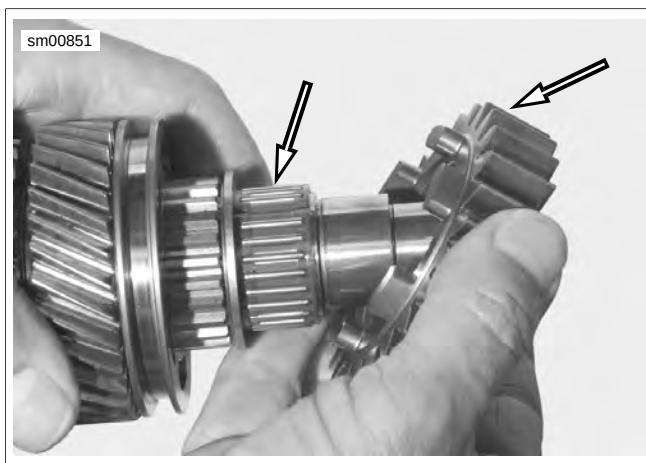

Figure 6-150. Bearing and 5th Gear
6. See Figure 6-150. Install lubricated **new** split cage bearing behind splined thrust washer. Install 5th gear over split cage bearing.
7. See Figure 6-150. Install **new** 2nd gear. Use a pressing ring to clear the shaft. Press gear on shaft until it bottoms on the gearset.